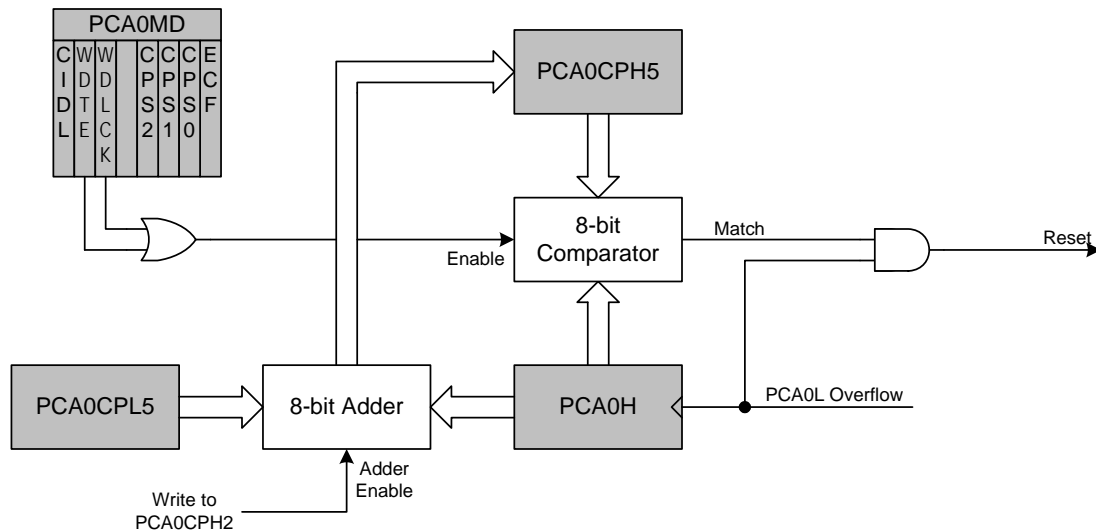

Figure 23.11. PCA Module 2 with Watchdog Timer Enabled
While the WDT is enabled, writes to the CR bit will not change the PCA counter state; the counter will run until the WDT is disabled. The PCA counter run control bit (CR) will read zero if the WDT is enabled but user software has not enabled the PCA counter. If a match occurs between PCA0CPH5 and PCA0H while the WDT is enabled, a reset will be generated. To prevent a WDT reset, the WDT may be updated with a write of any value to PCA0CPH5. Upon a PCA0CPH5 write, PCA0H plus the offset held in PCA0CPL5 is loaded into PCA0CPH5 (See Figure 23.11).